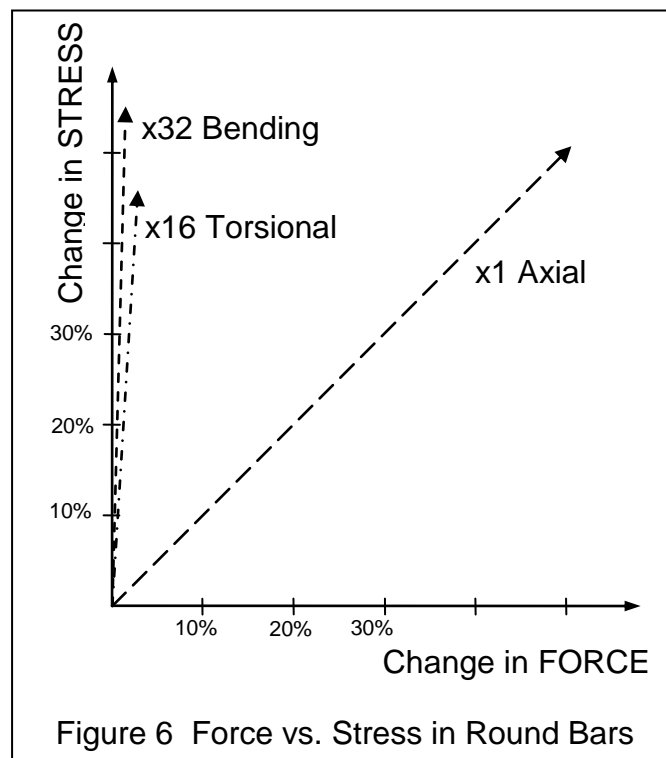

Figure 6 Force vs. Stress in Round Bars
Figure 6 visually represents the change in stress for a change in applied force on a round bar. A 10% change in force causes the axial stress to increase an equal proportion, the torsional stress rises proportionally by sixteen (16) times and bending stress rises thirty two (32) times. All three stresses sum together at every point in the bar. Also added to those stresses is the extra stress due to the influence of shape changes, like the keyways and fillets shown in Figures 7 and 8 respectively, that concentrate stress in the microstructure.